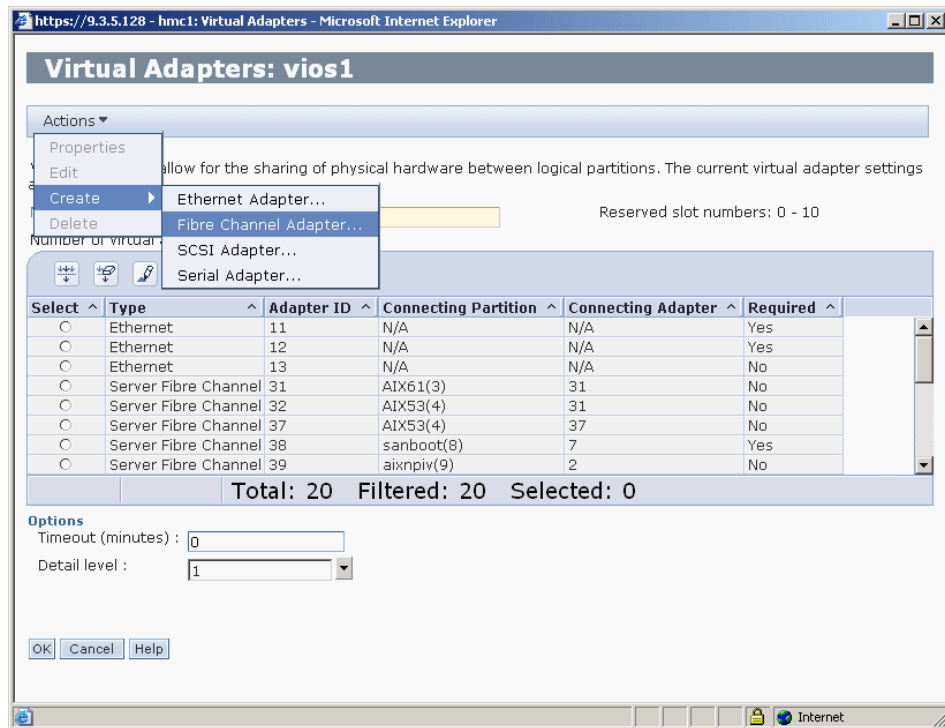

Figure 2-44 Create virtual Fibre Channel server adapter in vios1 partition
3. Click **Actions** → **Create** → **Fibre Channel Adapter...** as shown in Figure 2-44.